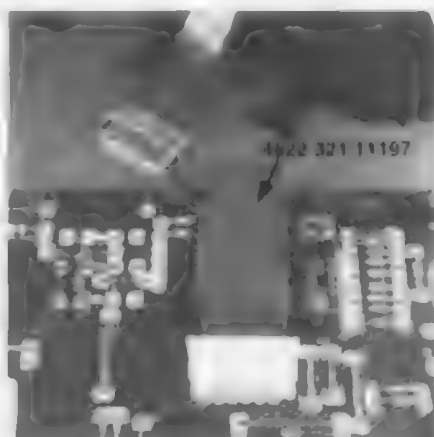

fig. 2
- 3 Short-circuit printed board with **brass-sheet (4822 321 11197)** plugged into the flexfoil connector (fig 2)